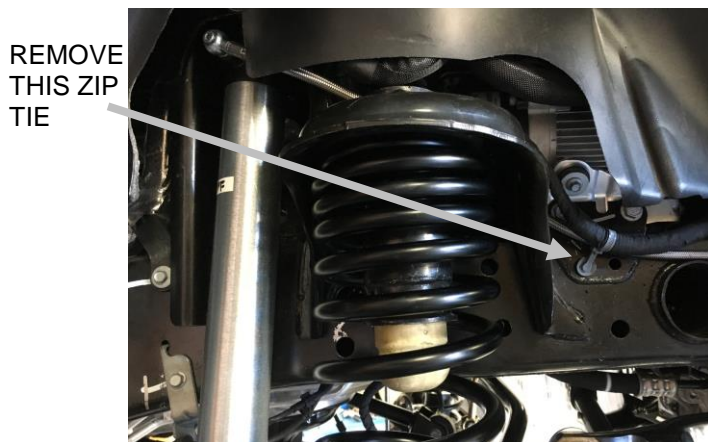

Figure 15 – Passenger side
- Z. For the Passenger side, route the hose as shown in Figures 15 and 16. Carefully remove the zip ties holding the electrical cable shown. Route the hose behind these cables. If the factory zip ties are in good condition, reuse them. If not, replace them with the supplied zip ties. Apply the rubber strip where shown.